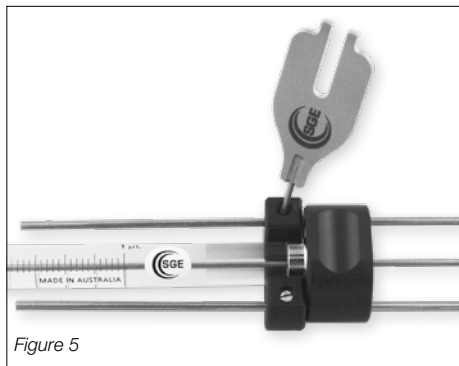

Figure 5
- Fit the adjustable stop (4) to the plunger guide rods (1c). Withdraw the plunger to the desired volume. Slide the adjustable stop (4) so that it butts up against the adaptor body. Tighten screws (5a and 5b) (Figure 5). Check for a free sliding action. The syringe and repeating adaptor are now ready for use.